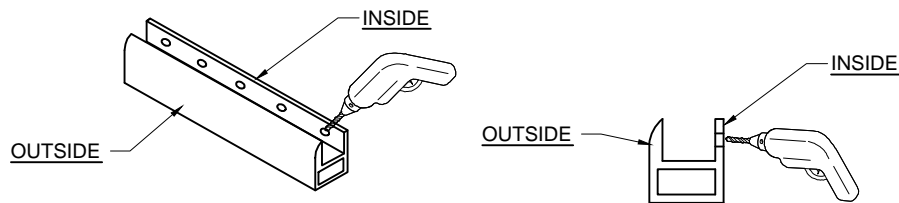

FIG.12
3. Apply clear silicone caulk around the inside perimeter of the bottom rail. [SEE FIG.12]
- A. If you are experiencing water build up in the top portion of the rail, it is recommended to drill small holes on the top inside portion. Space holes every 6"-8". Stay within 3" from the end of the rail. [SEE FIG. 12]